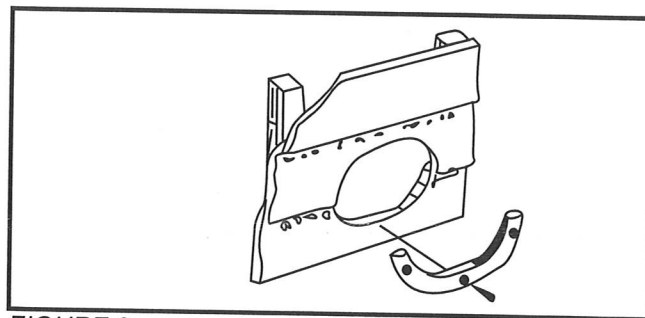

FIGURE 2
- 2.5 Lapstrake hulls require a shim made from marine grade plywood or other suitable material and attached to the hull with seam compound and mechanical fasteners. The fasteners must be positioned not to interfere with the housing mounting screws. See Figure 2